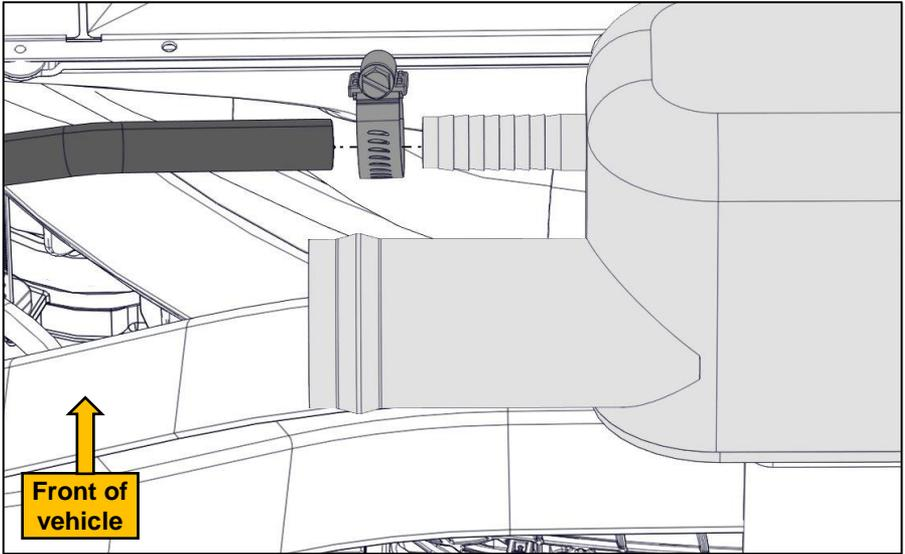

Figure 5 – Connect hose to VMAC cooler
- Connect the hose to the small spigot on the passenger side of the cooler using a hose clamp (Figure 5).